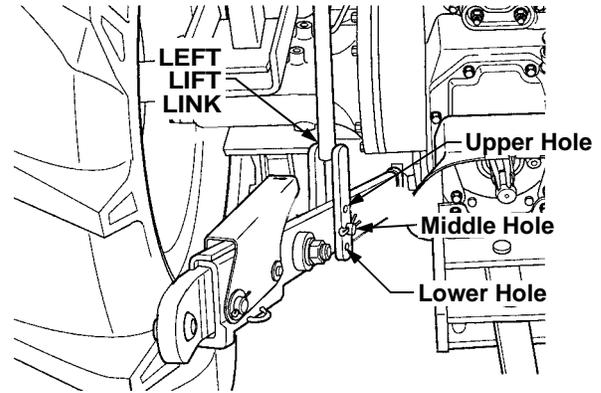

Figure 37
- Following the information provided in the implement owner's manual, attach the left lift rod to the lower link using one of the three holes provided in the lift rod. Remove the internal cotter pin and clevis pin to adjust the left lift rod. See Figure 37.